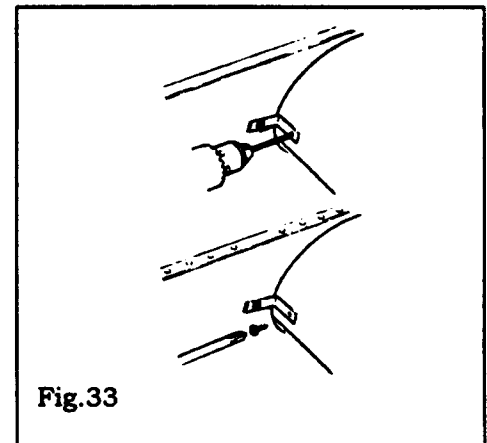

Fig.33
9.1.1.6 Drill through the holes in the vent securing brackets into the outer tube and appliance outer collar for #6 screws. **Make sure that the drill does not penetrate the inner tubes.** Secure the vent unit to the brackets with two #6 thread cutting screws supplied (As fig. 33).